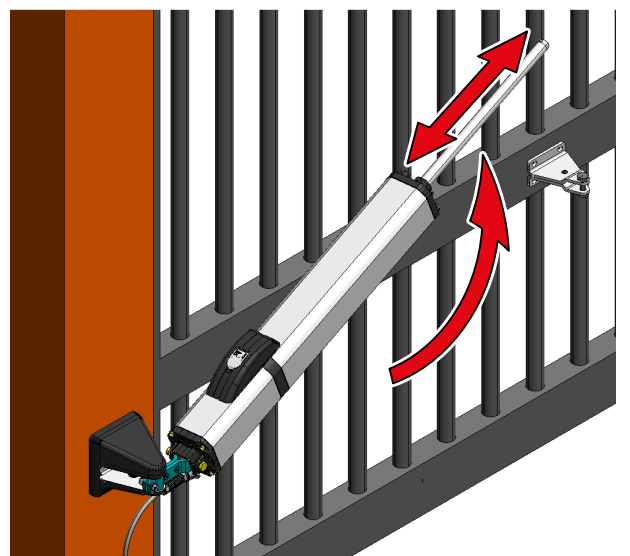

Fig.27
6. Power the operator off the batteries and repeatedly move the piston in and out, over its complete stroke, until reaching a smooth movement (Fig. 27).